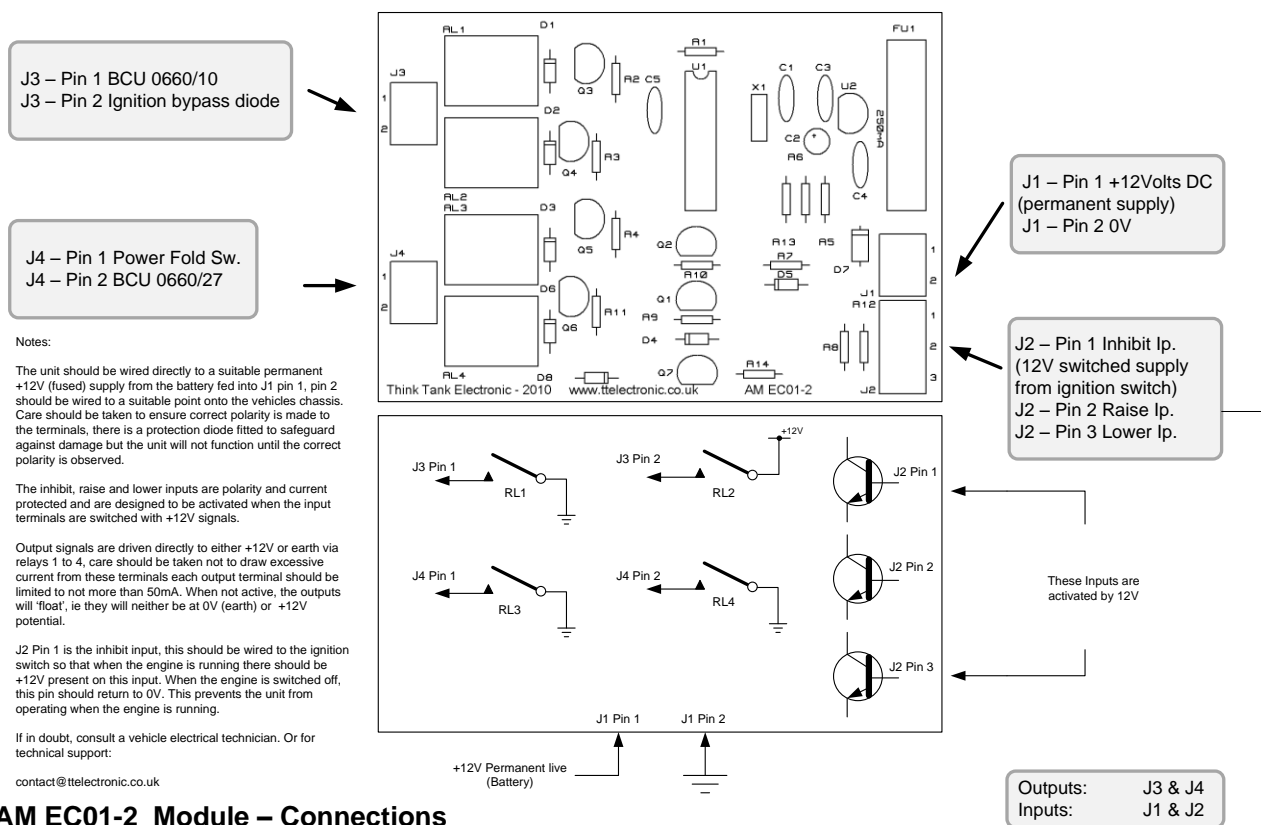

Figure 1
The following procedures require a basic understanding of electronic testing and circuit board layout, figure 1 provides an overview of the printed circuit board layout and connection details. Care should be taken when handling the integrated circuit (IC U1) as it can be damaged by static charges and suitable measures should be taken to ensure that all potential static charges are eliminated before work is carried out. Pay particular attention to the work area, ensure that the work area is clean and dry and surfaces such as plastic sheeting are avoided as these can harbour static potentials which can destroy electronic components. Also ensure that the unit is not tested on conductive surfaces which could result in short circuit of the underside of the PCB and cause permanent damage to the module.
When the chip has been removed, place it in a safe area. During replacement of the chip it is **absolutely essential** that the chip is oriented correctly (ie, the notch at one end of the chip faces towards the **top** of the PCB – see figure 1) and all of the legs are straight and that all pins align with the holes in the socket before pressing the chip firmly back into place. This is absolutely essential, failure to observe this will damage the chip or other components.
5. Once the above checks have been satisfactorily completed and that you are happy that no short circuits exist. Connect the terminals of tagblock J1 to a 12V DC power supply or car battery (please note do not use a 24V truck battery!). Ensure that the positive (red or + terminal) of the power supply connects to J1 pin 1 and the 0V or – terminal (black) connects to J1 pin 2. See figure 1. Switch on the power supply and ensure that none of the relays energise – listen carefully for a click when you turn the power supply on or off. If any of the relays operate at this stage check the underside of the PCB for any blobs of solder shorting the tracks to the earth plane of the PCB. Check around the relay pins and the 4 transistors Q3 to Q6.